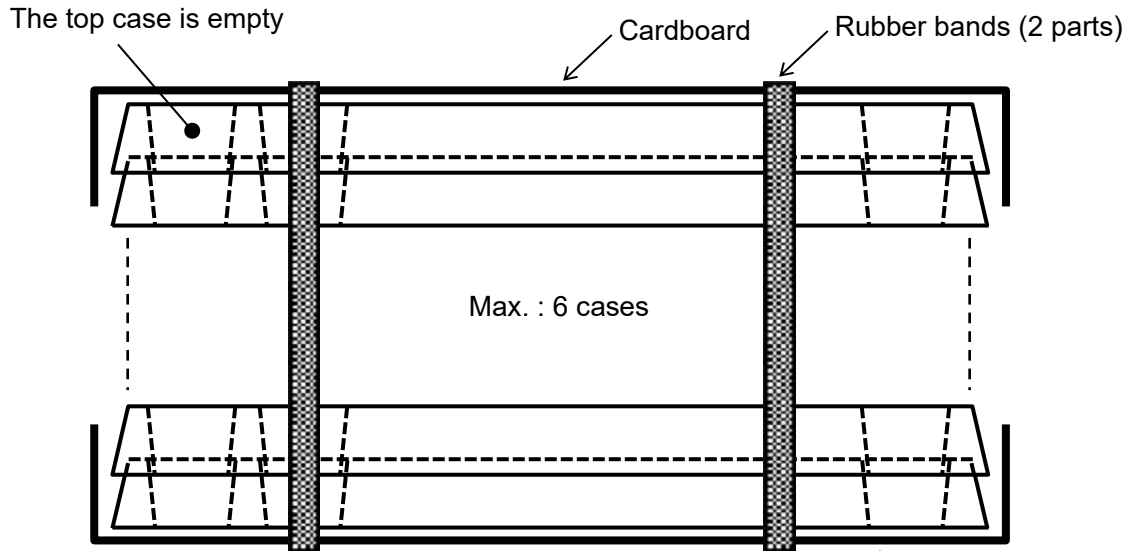

Fig.2
- (1) Put PD4 (Max. : 100 pcs.) in the packing case.
- (2) Pile up 6 cases (the top case is empty), cover top and bottom with the cardboard and fix 2 parts with rubber bands. (Refer to Fig.2)